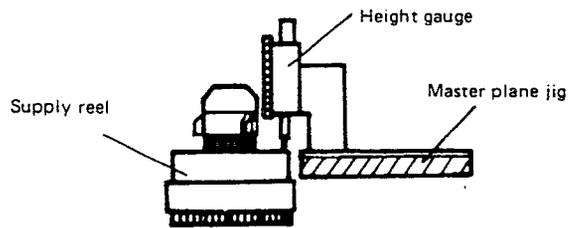

Fig. 17 Reel height adjustment
3. Check reel assembly height measure at two places 90° apart. ( $\pm 0.2$  mm) (Fig. 17)